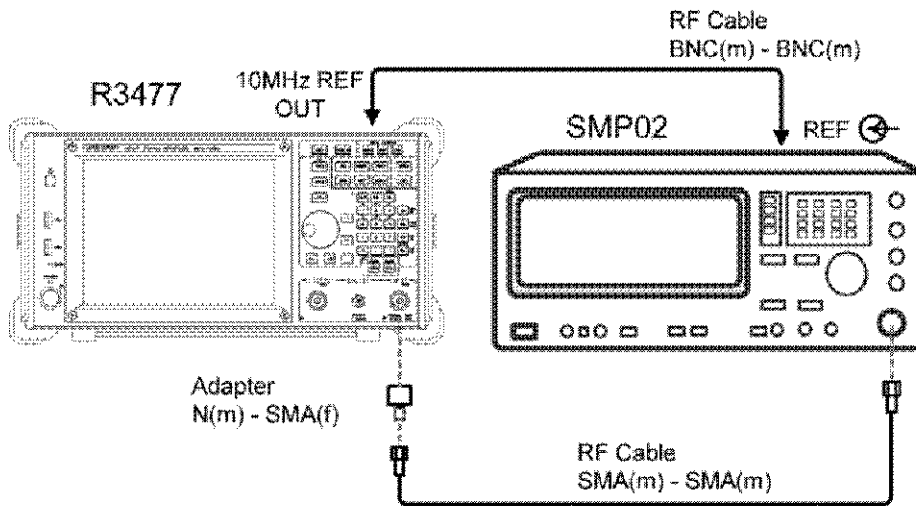

Figure 2-12 Resolution Bandwidth Switching Error Test
1. Connect the instruments as shown in Figure 2-12.